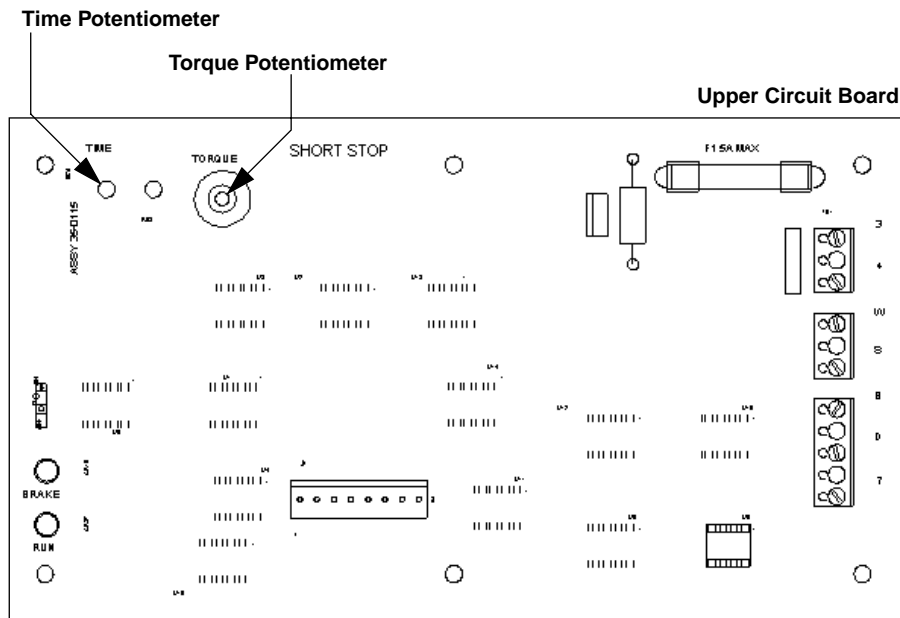

Figure 11: Location of the Time and Torque Potentiometers
2. Using an insulated screwdriver, turn the torque potentiometer to its minimum position (fully counterclockwise). Figure 11 shows the location of the torque potentiometer.
2. Using an insulated screwdriver, turn the torque potentiometer to its minimum position (fully counterclockwise). Figure 11 on page 26 shows the location of the torque potentiometer.
3. Using an insulated screwdriver, adjust the time potentiometer (shown in Figure 11) so that it is mid-way between its maximum value (15 seconds, fully clockwise) and minimum value (0 seconds, fully counterclockwise).